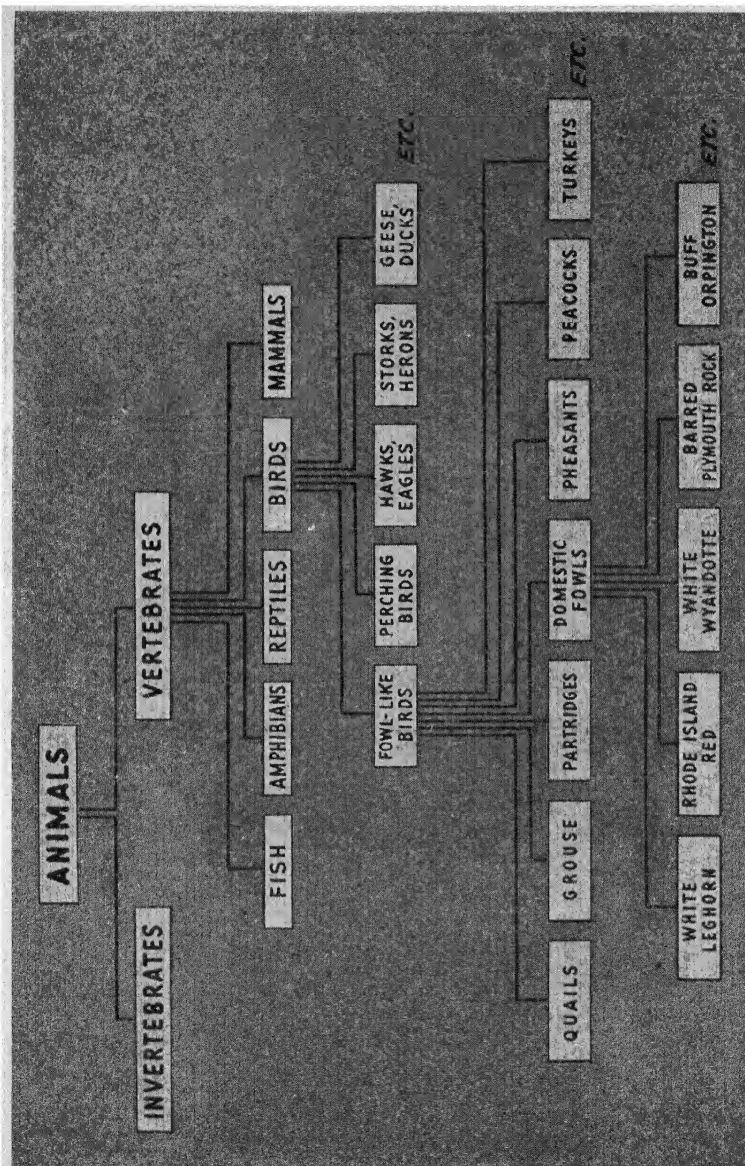

FIG. 65. This diagram shows how animals are divided into smaller and smaller groups according to their structure.
If you will look at Figure 65, you will see a diagram of what we have just described. You can see from this diagram how the scientist divides all animals into two groups, vertebrates and invertebrates. Then he divides the vertebrates into smaller groups. Each of these smaller groups is divided into still smaller groups. The scientist goes on dividing each group into still smaller and smaller groups until finally he is able to identify and name each particular animal.
4. Explain fully what Figure 65 shows.